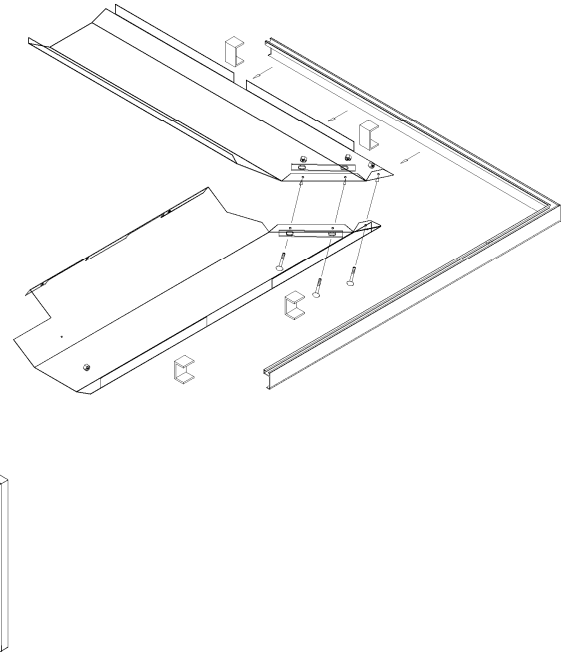

Figure 2.9d
(see Figure 2.9d)
5. Secure trim to faceplate using eight "U" shaped brackets. (see Figure 2.9d)